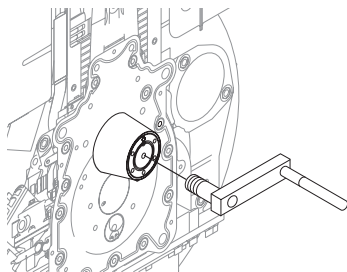

Figure 18. Starting Handle Guide Sleeve
3. Insert the starting handle into the engine's starting handle guide sleeve (Figure 18).